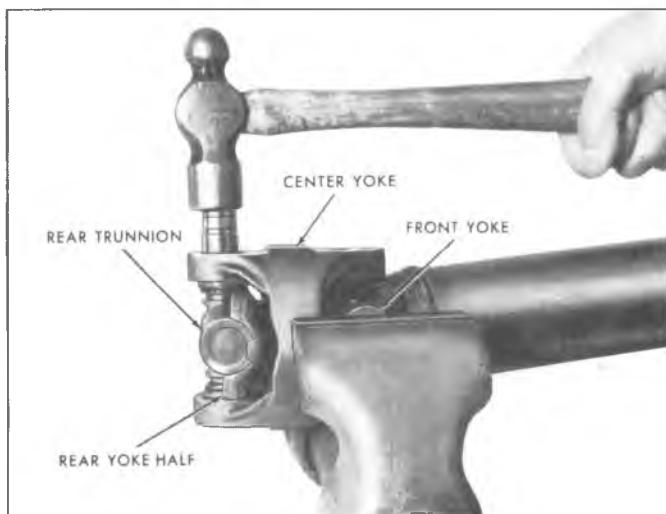

Fig. 52—Driving Out Bearing Cups
3. Place prop shaft in vice as shown in Figure 52. Drive one rear trunnion bearing cap from center yoke as shown in Figure 52 until it protrudes approximately 3/8".